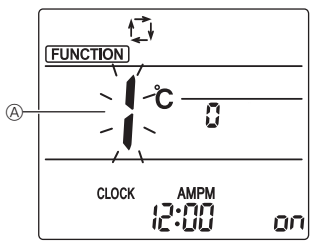
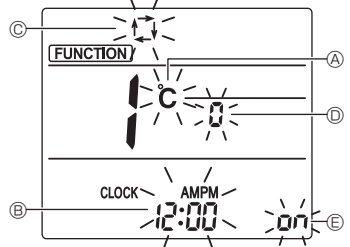

Fig. 4-1
Fig. 4-2
1. Press the **STOP** button ① to stop the air conditioner.
- If the weekly timer is enabled, press the **ON/OFF WEEKLY** button ⑧ to disable the timer. (**WEEKLY** ⑨ disappears.)
2. Press the **MENU** button ②.
- The Function setting screen will be displayed and the function No. (A) will blink. (Fig. 4-1)
- Press the **DOWN** button ④ to change the function No.
3. Check that function No. "1" is displayed, and then press the **SET** button ③.
- The Screen display setting screen will be displayed. (Fig. 4-2)
**4.2. Changing the temperature unit (A) [Factory setting: °C] (Fig. 4-2)**
- Press the **TEMP** button ⑤.
- Each time the **TEMP** button ⑤ is pressed, the setting switches between **°C** and **°F**.
- The function No. ④ blinks. (Fig. 4-1)